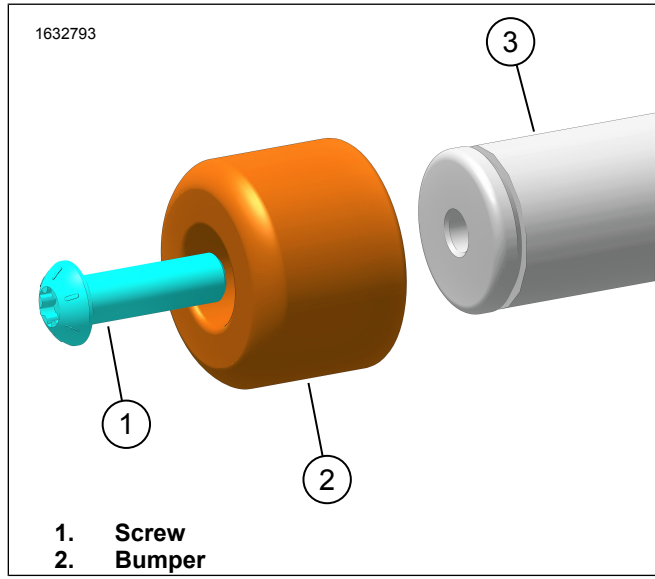

Figure 4. Bumper Replacement
1. See Figure 4. Remove and discard screw (1) and bumper (2).
2. Install bumper (2).
3. Install screw (1). Tighten.